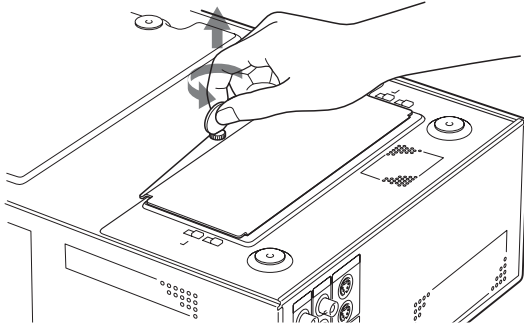

Figure 4.5
- 3** Remove the single screw by which the back cover plate is secured, using a coin, etc. (see Figure 4.5).